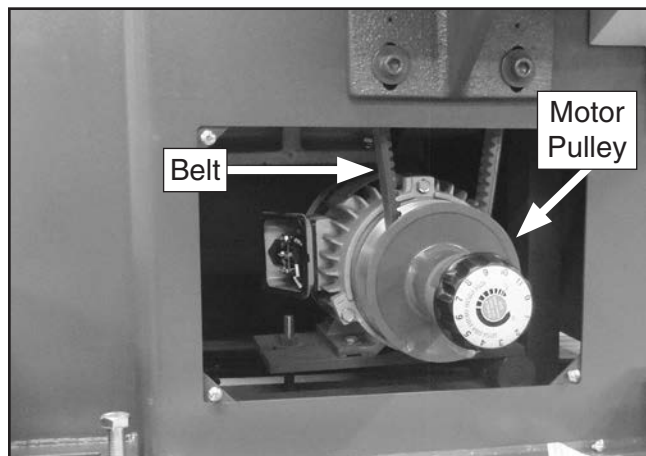

Figure 7. Feed motor components.
8. Remove motor cover, then remove cog tooth belt from feed motor pulley (see **Figure 7**).